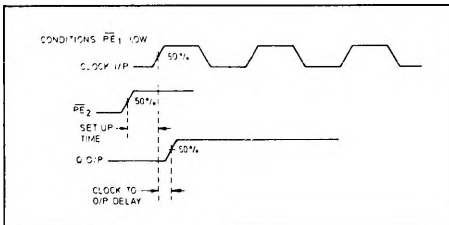

Fig. 3 Set-up timing diagram
- Set-up time is defined as the minimum time that can elapse between a L→H transition of a control input and the next L→H clock pulse to ensure that the $\bar{\phi}6$ mode is forced by that clock pulse (see Fig. 3).